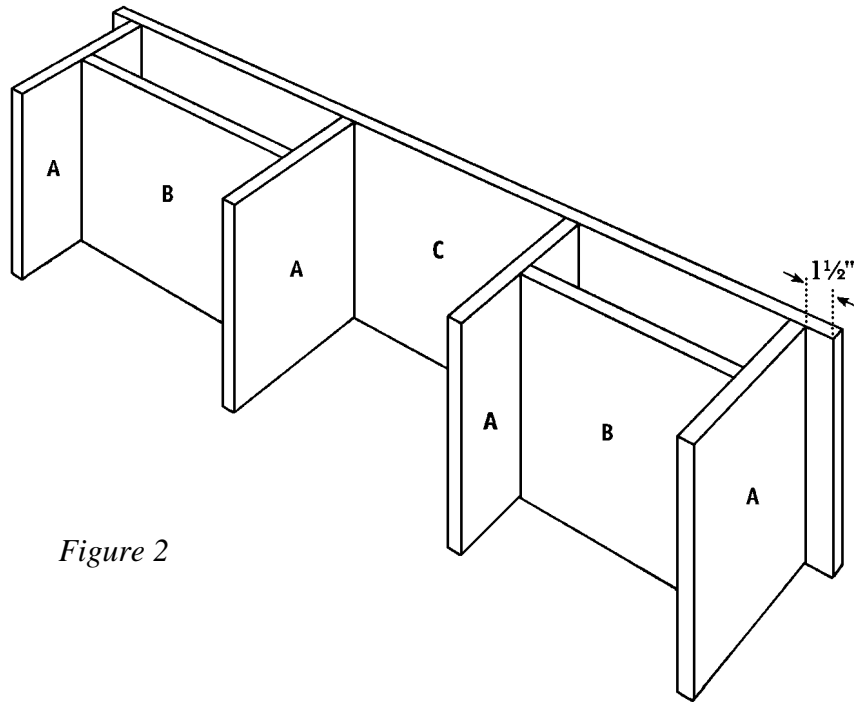

Figure 2
1. Cut two Top/Bottoms (C) from 1 x 12 pine, each measuring 38 inches.
2. Place one Top/Bottom (C) on edge, on a flat surface. Place one shelf assembly (A and B) 1-1/2 inches from one end of the Top/Bottom (C), as shown in *Figure 2*. Apply glue to the meeting surfaces, and screw through the Top/Bottom (C) into the ends of the Vertical Dividers (A). Use three 1-5/8" wood screws on each joint.
3. Repeat Step 2 to attach the remaining shelf assembly (A) and B) 1-1/2 inches from the opposite end of the same Top/Bottom (C).
4. Center the remaining Top/Bottom (C) over the assembly. It should overhang the outermost Vertical Dividers (A) by 1-1/2 inches on both ends. Apply glue to the meeting surfaces, and screw through the Top/Bottom (C) into each of the Vertical Dividers (A). Use three 1-5/8" wood screws on each joint.